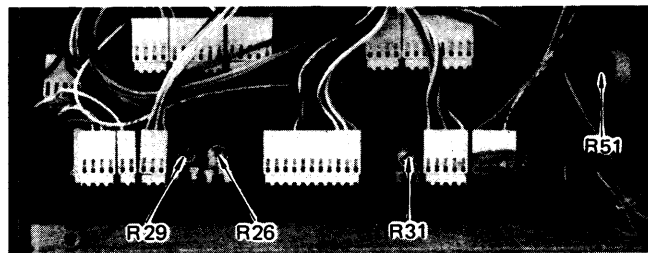

Fig. 6-4-3
- 2) Turn the reduction pulley with your hand and observe whether the head base comes to the same position as noted or exceeds the position. If exceed, adjust the trim pot R31. (Refer to Fig. 6-4-3)
Run the deck in the FF or RWD mode and make sure a clearance between each brake drum and the brake pad is approx. 1.5 to 2 mm. If not, adjust R26. (Refer to Fig. 6-4-3) After the adjustment has been completed, repeat switching operations from the STOP to FF or RWD two or three times and make sure the clearance "a" is within the specified range.
Set the deck to PAUSE mode and observe the clearance "b" between the pinch roller and capstan shaft. It should be approx. 0.5 mm to 1 mm. If not, adjust the trim pot R29 (Refer to Fig. 6-4-3). After completion of the adjustment, repeat switching operations from STOP to PAUSE mode two or three times, and make sure the clearance "b" is within the specified range. Also make sure there is a clearance "c" between the head base and a spring stud.
- d) Adjust the trim pot VR51 (Refer to Fig. 6-4-3) provided on the rear side of the PITCH control variable resistor with a small "-" driver to obtain 3000 Hz \pm 5 Hz reading on the frequency counter.